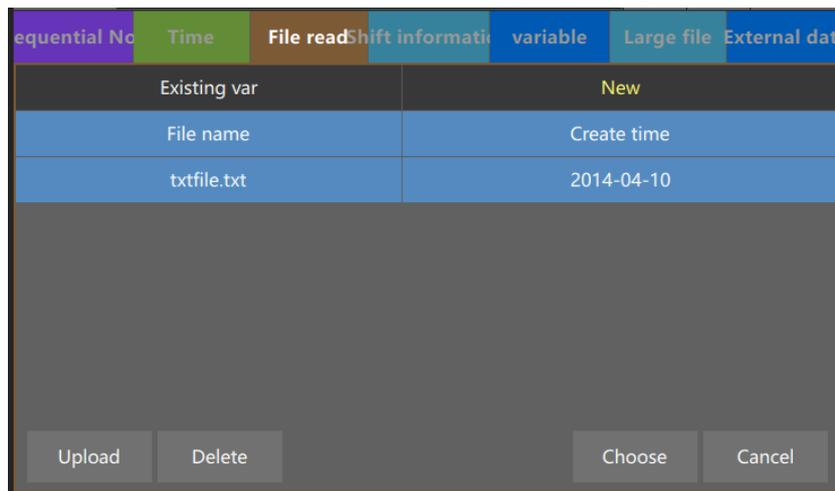

Figure4- 20
1. Click file name, click Select, then next interface pops up,as Figure4- 20
2. Select the current laser systems existing text file, click on the text file you want to add, and then click Select,then click Insert. Example: select Figure4- 20 text file (txtfile.txt), one-click to select, insert,Reading of the text file is completed. If users want to upload a text file yourself, click the Upload button in Figure4- 20 , insert the USB device, and then select